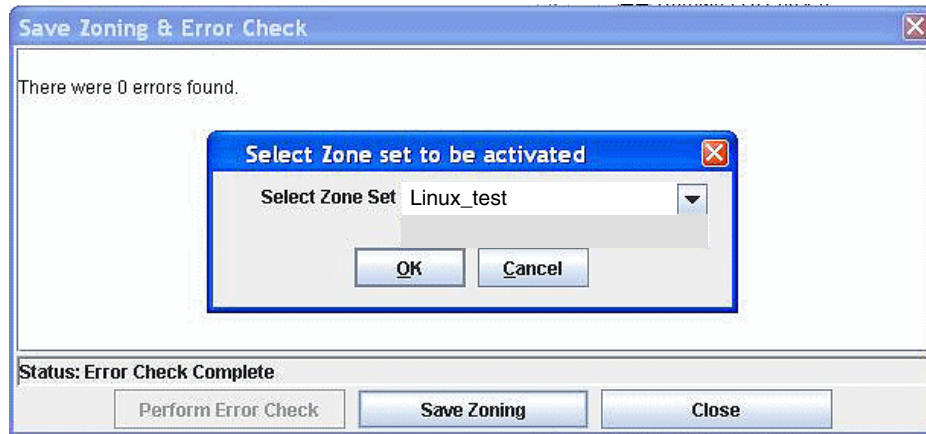

Figure 8-29 Select Zone set to be activated window
20. Click **Yes** to activate the zone set. You will see a window similar to Figure 8-29.